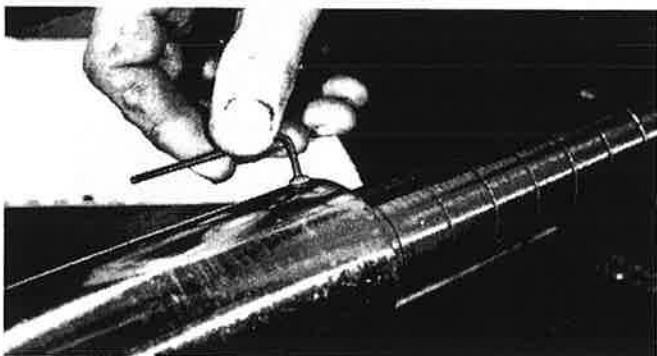

Figure 73. Remove Set Screws
- F. Remove split bushing at bottom of feed tube by removing two screws. See Figures 73 and 74.